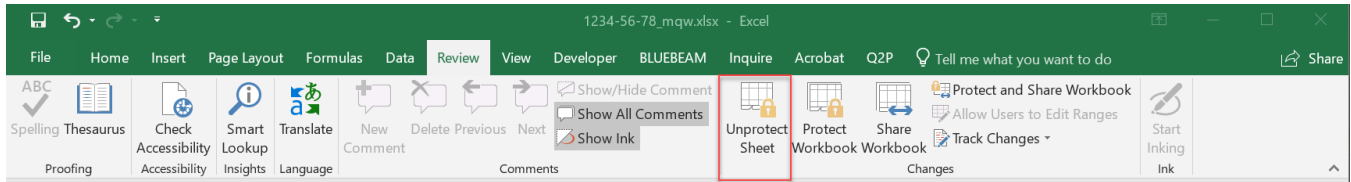

Figure 12.1 “Unprotect Sheet” command.
2. From the “Bid Items” worksheet, select **Review > Changes > Unprotect Sheet** (Figure 12.1).